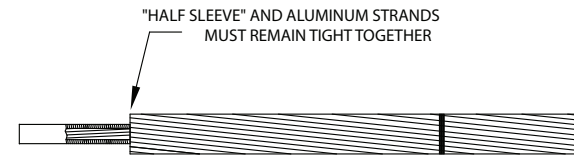

Fig. 3
3. **IMPORTANT:** File burrs from end of steel strands. Slide conductor's steel core into end of "Inner - Half Sleeve" (Center Piece of "Core Grip"). Rotate the Sleeve in a "back-and-forth" motion to ease insertion of the steel core. Ensure "Inner - Half Sleeve" is tight against the aluminum strands as shown in Fig. 3.